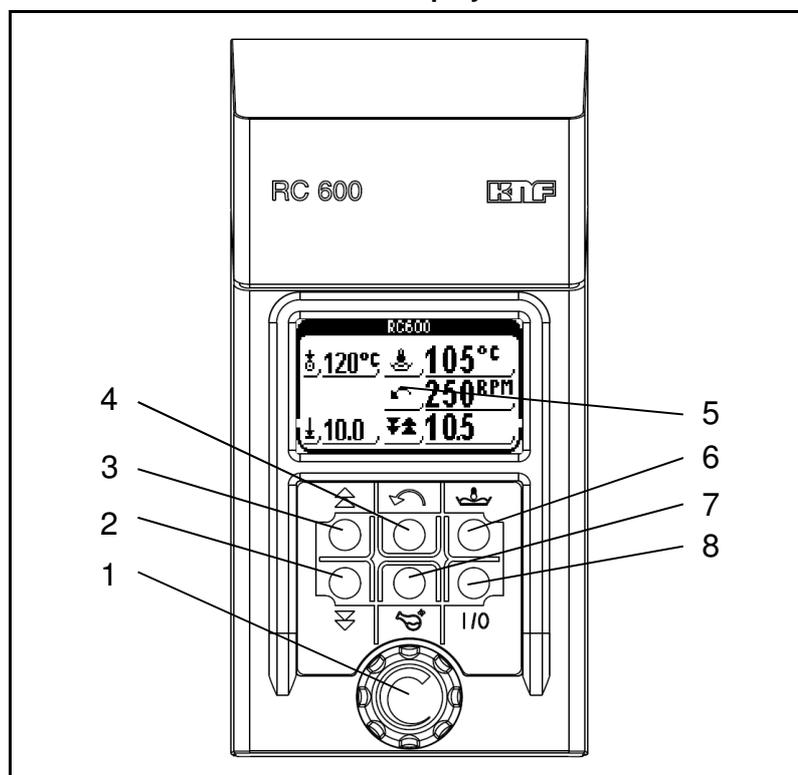
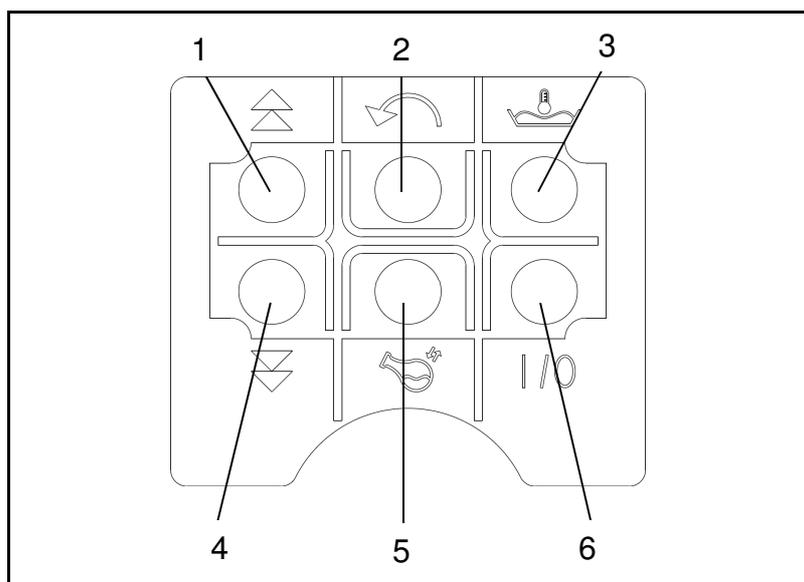

Fig. 9: Terminal
Fig. 11: Buttons on the membrane keyboard
- the rotary knob (Fig. 9/1) and
- Operating keys (Fig. 11) with the functions:
- Switch heating bath on and off (8)
- Heating bath selection (6)
- Switch rotation on and off (4)
- Raise lift (3)
- Lower lift (4)
- Exchange flask function (7)
The various safety settings can be changed by pressing the buttons simultaneously (Fig. 11/2+3).
b) To change the unit of temperature, press button 3 (Fig. 11/3) for 5 seconds. This is confirmed with an acoustic signal.
Use the button (Fig.11/6) to switch the heating bath on and press it again to switch it off.
Tab. 2 * according to Fig. 11
The immersion depth can be raised via button 1 (see Fig. 11/1) or lowered via button 4 (see Fig. 11/4).
- Press button 1 or 4 (see Fig. 11/1+4) and then turn rotary knob 1 (see Fig. 9/1) to finely adjust the lift.
- Hold button 5 (see Fig. 11/5) for 5 seconds to apply the current position of the evaporation flask. The flask cannot pass the stored position. Press the button again for 5 seconds to delete the stored position.
- When you press the Exchange flask function button (Fig. 11/5) the flask moves to its top position. Rotation is stopped.
- When you press the Exchange flask function button (5) again, the evaporator flask returns to the stored position and rotation is started again.